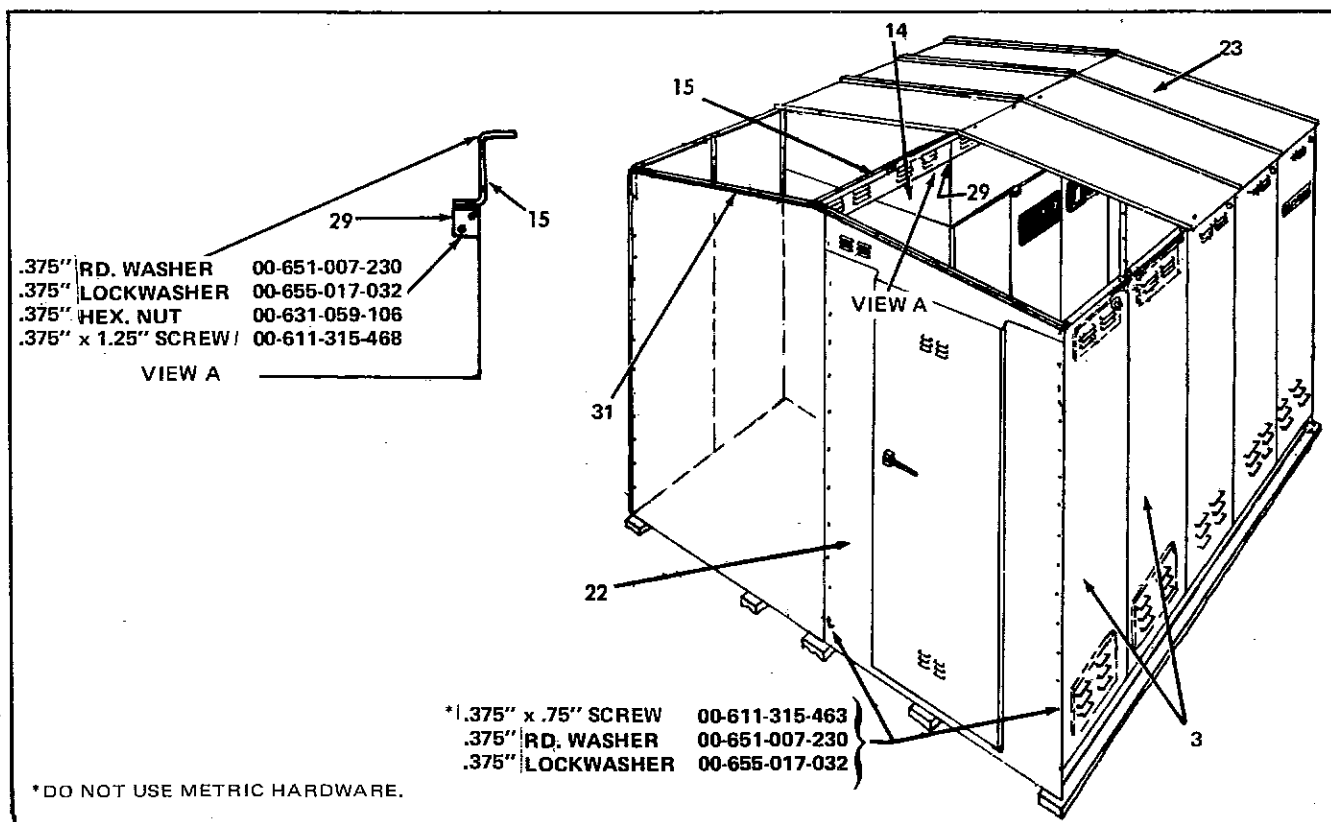
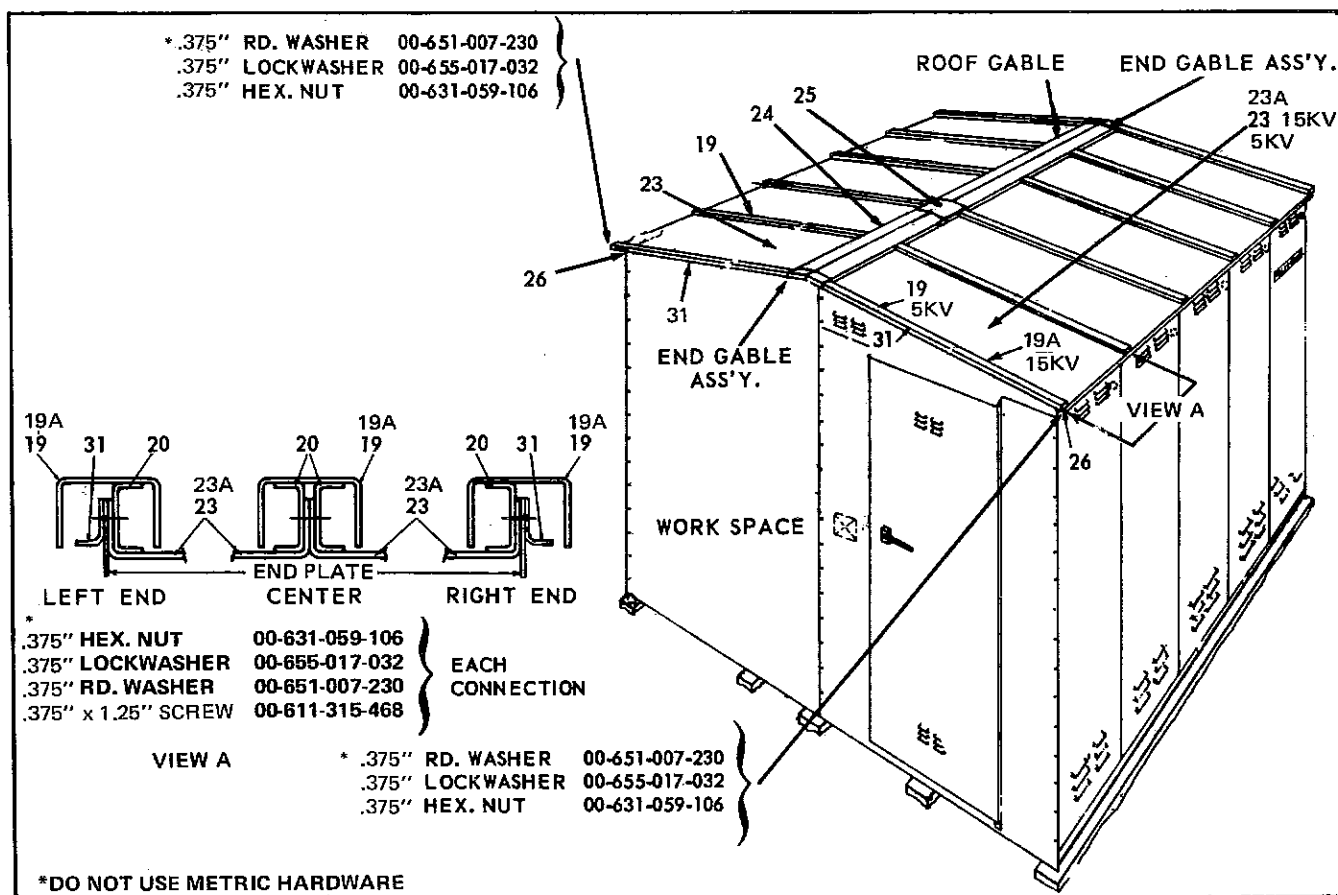

Figure 39. Door and Roof Support Installation (5 kV) – Single Aisle with Work Space
Figure 40. Roof Assembly (5 kV and 15 kV) – Single Aisle with Work Space
13. Apply .50-inch (12.7 mm) sealant tape to door frame assembly (22) and bolt it in place. Place tape so that one edge is on the vertical centerline of the mounting holes and the other edge is toward the point of weather exposure (Figure 39).
14. Remove trim angle (31) from end of cubicle and attach angle (29) to end of switchgear. Install roof support (15) from cubicle to end of work space. See view "A" for attaching support (15) to angle (29).
15. Put all roof decks (23) in place and bolt to the top of the end plate and to the roof support (15). Leave hardware finger tight until step 17 is complete.
16. Fasten roof decks (23) together using bracket (20). See view "A", Figure 40.
17. Mount trim angle (31). Tighten bolts.
14. Remove angle (31) from L.H. end of cubicle (see Figure 40). Attach angle (29) to end of switchgear, Figure 39. Install roof supports (15) from cubicle across beam (14) to end of work space. See view "A" for attaching support (15) to angle (29).
15. Put all roof decks (23A) in place and bolt to the top of the end plate and to the roof supports (15). Leave hardware finger tight until Step 17 is complete.
16. Mount trim angle (31).
17. Fasten roof decks (23) together using brackets (20). See view "A". Figure 40. Tighten bolts.